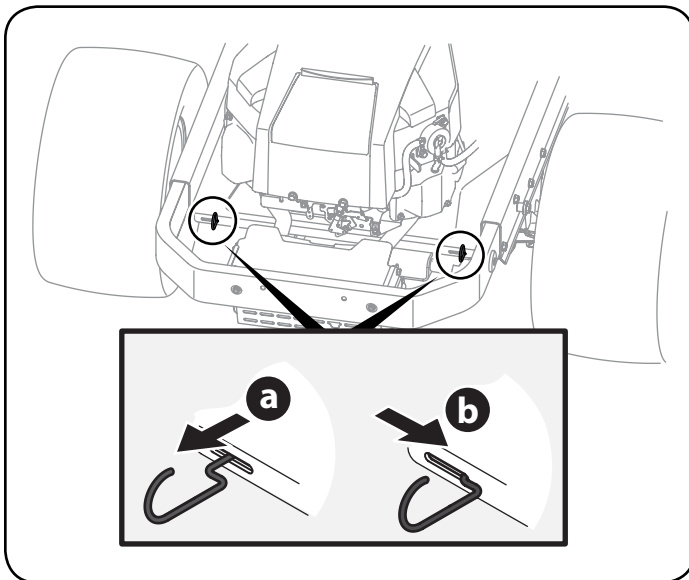

Figure 1
4. Engage the transmission bypass rods on each side of the riding mower; then carefully roll the riding mower off the shipping pallet. The transmission bypass rods (one for each the RH and LH transmission) are located on the rear of the riding mower, just inside each rear wheel. Engage the bypass rods by pulling each one out and to the right then letting it return to lock it into place. See Figure 1.
5. Disengage the bypass rods after rolling the riding mower off the pallet. See Figure 1.